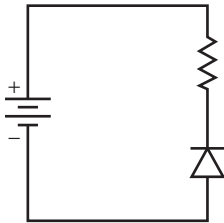

FIGURE 2.6
**5** When the diode is connected so that the current flows, it is *forward-biased*. In a forward-biased diode, the anode connects to a higher voltage than the cathode, and current flows. Examine the way the diode is connected to the battery shown in Figure 2.6.